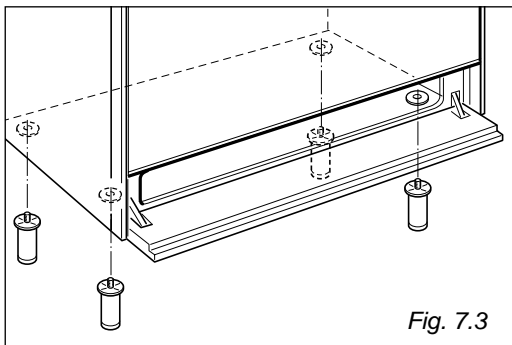

*Fig. 7.2*
Before installing the cooker, assemble the backguard "C" (fig. 7.2).
- Assemble the backguard as shown in figure 7.2 and fix it by screwing the central screw "B" and the spacers "A".